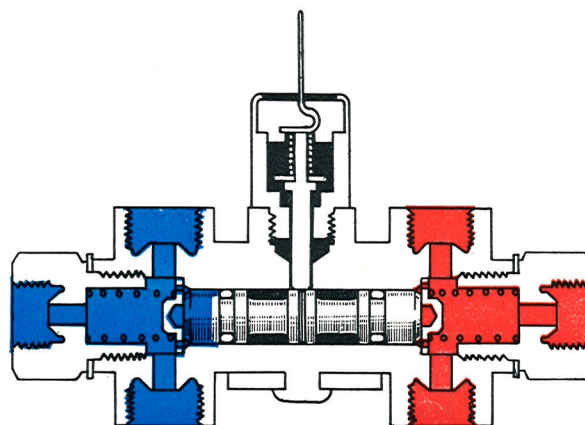

Fig. 5-38. Normal position
If there is no fault in the circuits and the brakes are applied, the hydraulic pressure on the pistons is largely the same on both sides (Fig. 5-38). But should, for example, the pressure in the secondary circuit be somewhat higher than in the primary circuit, this will try to displace the pistons to the right in the figure. This lifts the thrust washer (11) and the pressure of the spring (9) counteracts the displacement.